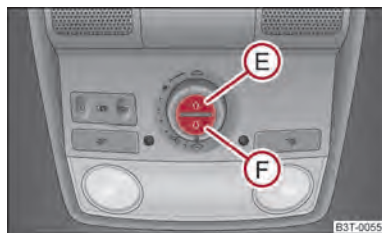

Fig. 32 Buttons for sun screen
You can open or close the sun screen separately with the aid of the buttons ⇒ fig. 32.
- Briefly press the button **E** ⇒ fig. 32 in order to fully open.
- Briefly press the button **F** ⇒ fig. 32 in order to fully close.
Press the switch (F) ⇒ fig. 32 for approx. 10 seconds in order to initialise the sun screen.